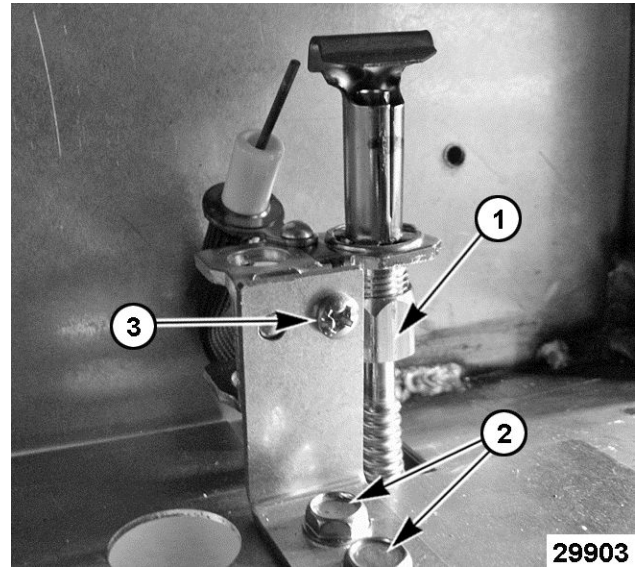

Fig. 9
2. Disconnect compression fitting (1, Fig. 9) from pilot.
3. Remove pilot and mounting bracket (2, Fig. 9) from the burner mounting panel.
5. Remove pilot from pilot mounting bracket (3, Fig. 9).